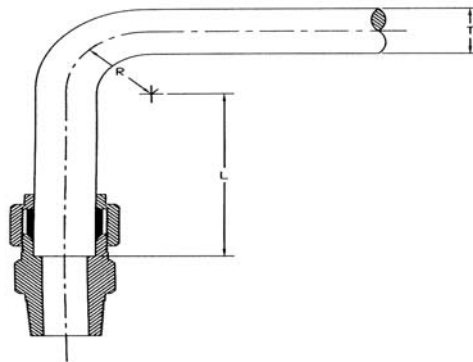

Figure 4.2-1 Guidance for Determining Length Between Tube Bend and Fitting
B. Bend tubing so that deformed section at bend does not enter fitting. See dimension L on Figure 4.2-1 and Table 4.2-2.